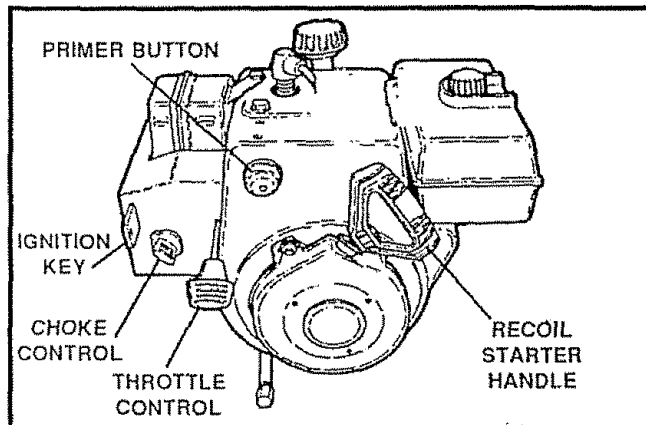

FIG. 10
- To stop the engine, push the throttle control lever to off and pull out the ignition key (See Fig. 10)